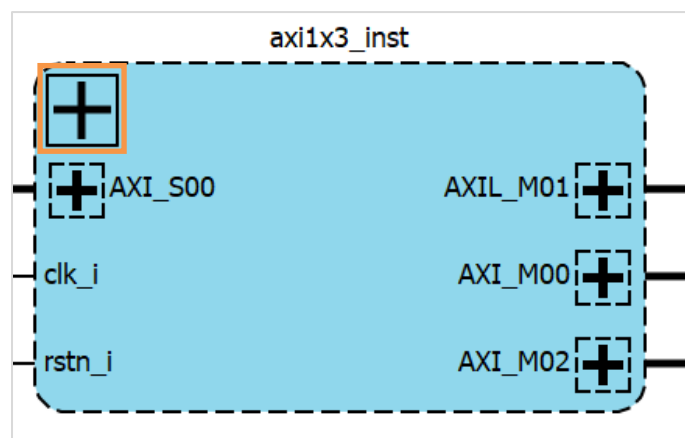
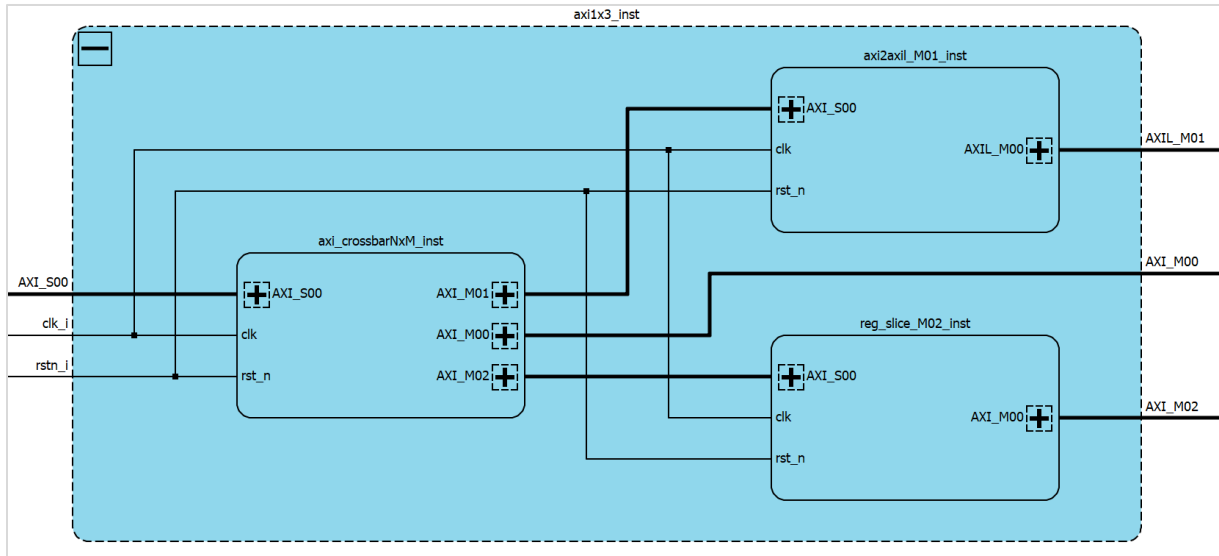

Figure 2.199. Hierarchical IP
Figure 2.200. Hierarchical IP Scope in Detail
1. Click **Expand IP** sign  on the left corner of the hierarchical IP (Figure 2.199) to show the detailed design scope of this IP (Figure 2.200).